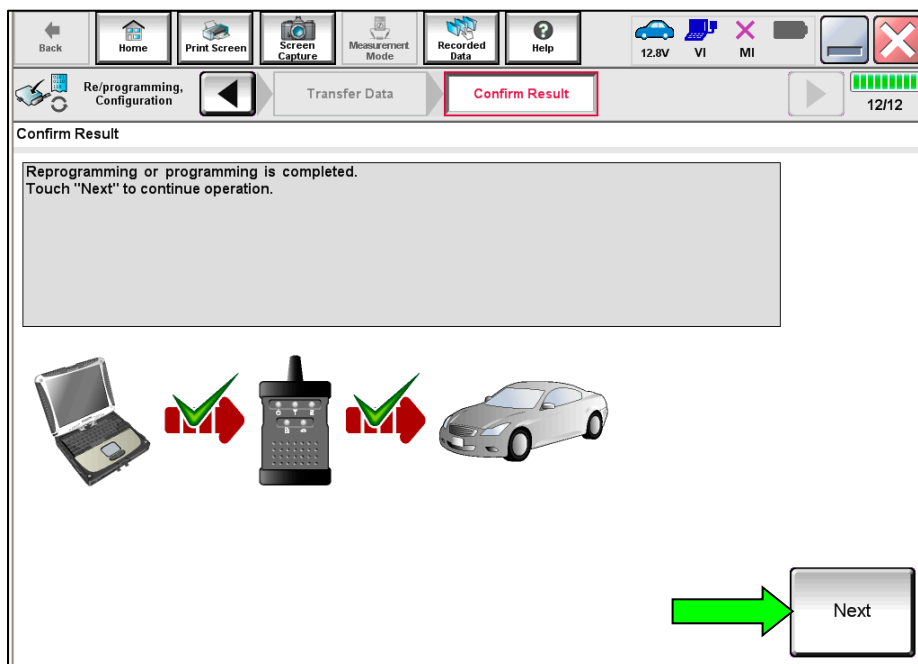

Figure 28
40. Once the screen in Figure 28 displays, the reprogramming is complete. Select **Next**.
**HINT:** When the screen in Figure 28 displays, HV Battery reprogramming is complete. If the screen in Figure 28 does not display (indicating that reprogramming did not complete), refer to the information on page 27.